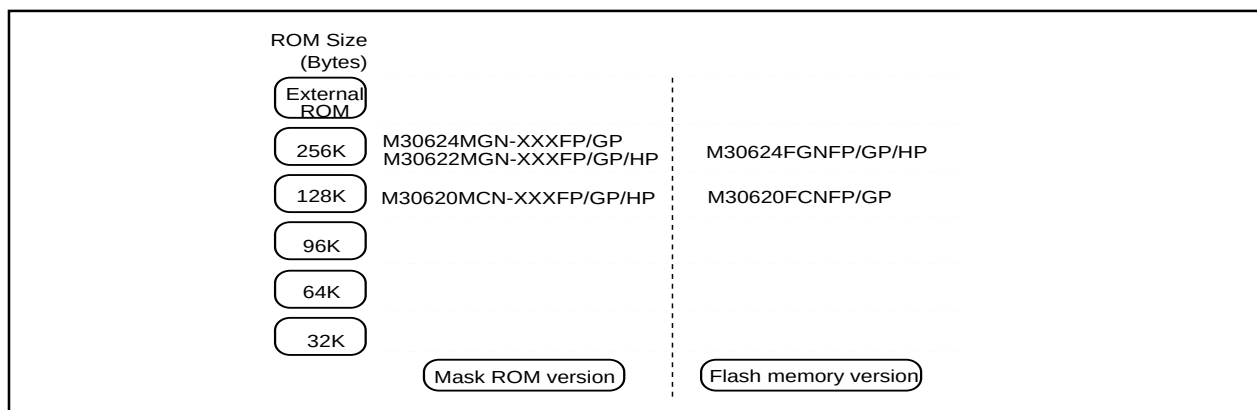

**Figure 1.1.4. ROM expansion**
- Memory capacity ..... ROM (See Figure 1.1.4. ROM Expansion)
| Memory capacity                     | ROM                          | (See the figure 1.1.4. ROM Expansion)                                                                                                                                                                                    |